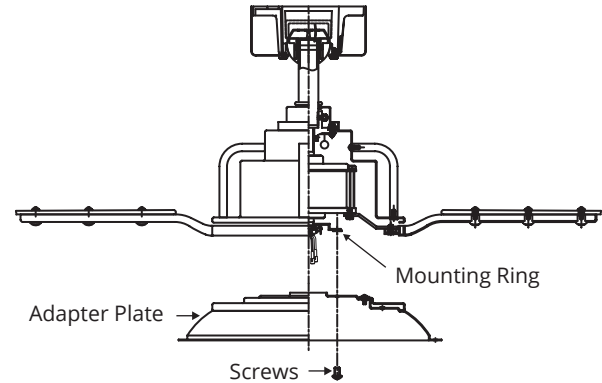

FIGURE 18
2. Place the key holes in the adapter plate over the two screws previously loosened from the mounting ring. Turn the adapter plate until the adapter plate locks in place at the narrow section of the key holes. (Fig. 18)